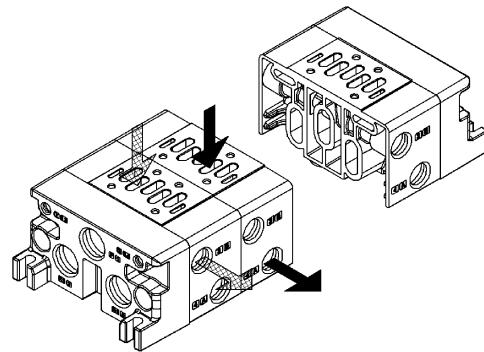

Figure 2
- 2) Compressed air coming from Supply port through solenoid valve comes out to Supply A port (or Supply port B) through Supply A (or Supply B). (Figure 2)